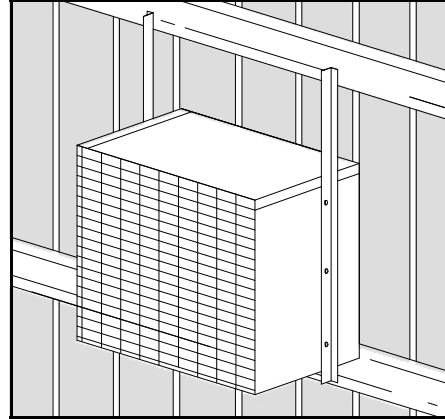

Fig. 1
- Attach two pieces of angle (supplied by others), one on either side of the fan housing, from the support girt to the girt above (See Figure 1).